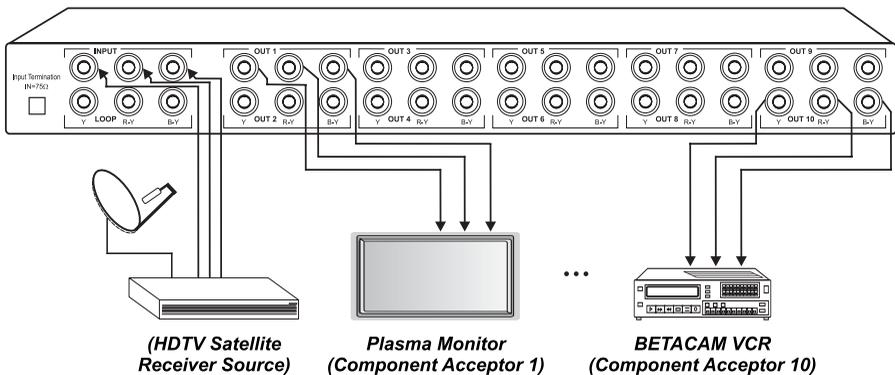

Figure 3: Connecting a VM-100C Unit
4. Connect the power cord3 (not illustrated in Figure 3).